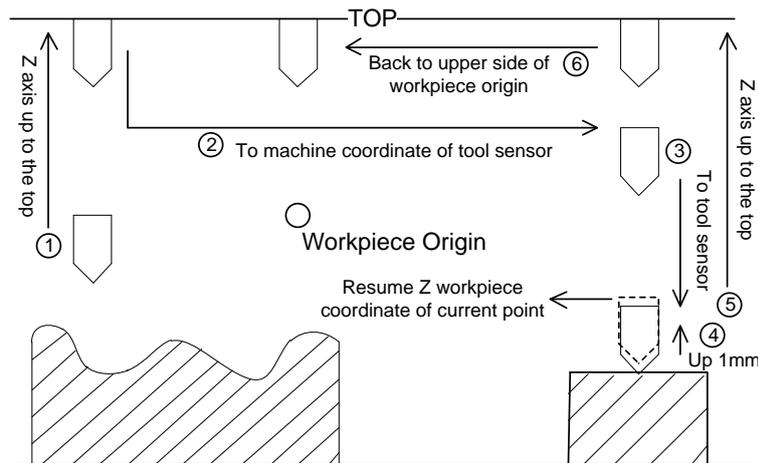

Fig. 3-28 Second Presetting
- After tool change or tool break, press F6 [Tool Cali], and then press F2 [Second Cali] in the new pop-up manipulation button bar to restore the Z workpiece coordinate value of current point, as shown in Fig. 3-28. The system ends this process automatically.